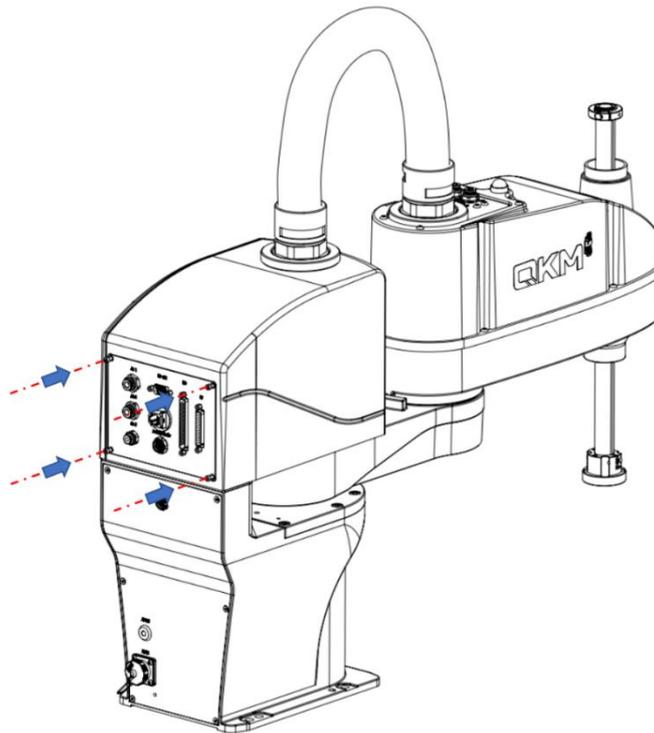

Figure 4-10 Installation of upper control cabinet interface panel
Step 2 Use 2.5 mm Allen wrench to tighten the fastening screws on the upper control cabinet interface panel of the robot (with a tightening torque of 2 N·m), as shown in Figure 4-10.